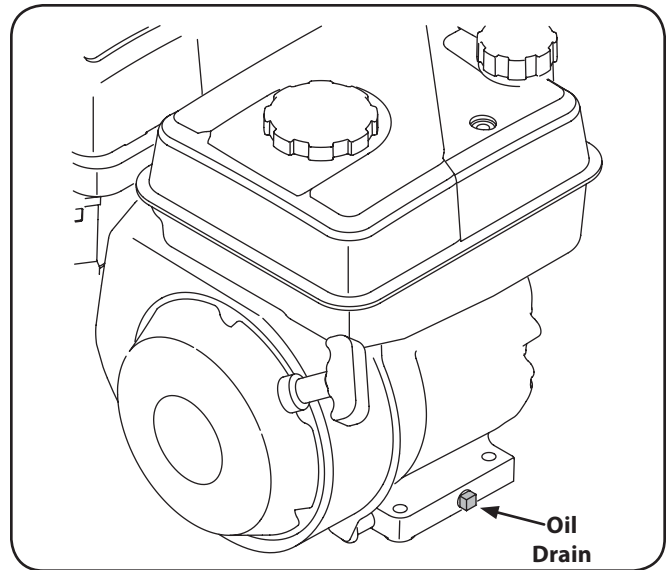

Fig. 6-3
6. Remove the Oil drain plug. See Fig. 6-3.